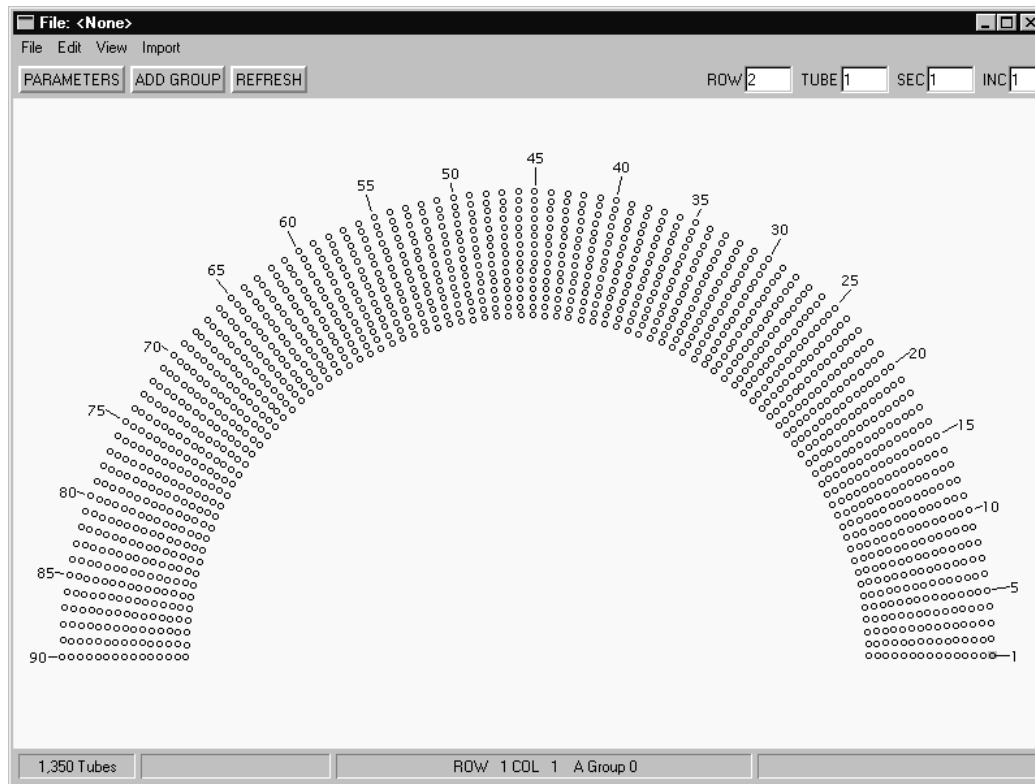
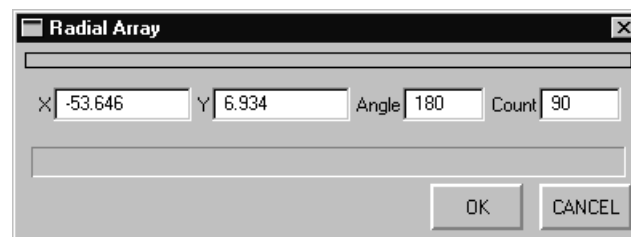

Figure 54. Radial Array Example
Figure 55. Radial Array Dialog
- ❑ **Popup | Radial Array:** This function allows the user to quickly create a *radial* tubesheet map like the example shown in Figure 54. To demonstrate this function, create a single row of tubes in a new group. On the main **MakeComp** window, right-click, then click **Radial Array** on the **Popup** menu. The **Radial Array** control dialog shown in Figure 55 appears. **Zoom Out (Ctrl+right-click)** and click a point on the window some distance from the first tube in the row (group). This establishes a center-point that the **Radial Array** will be drawn around. The **X** and **Y** values in the control dialog will automatically update and display the new coordinates of this point. In the **Angle** field, enter the desired angle or *arc* for the **Radial Array**. In the **Count** field, enter the number of rows to be duplicated within the *arc* specified and click **OK**. The new **Radial Array** appears. The settings shown in Figure 55 were used to create the **Radial Array** tubesheet map shown in Figure 54.